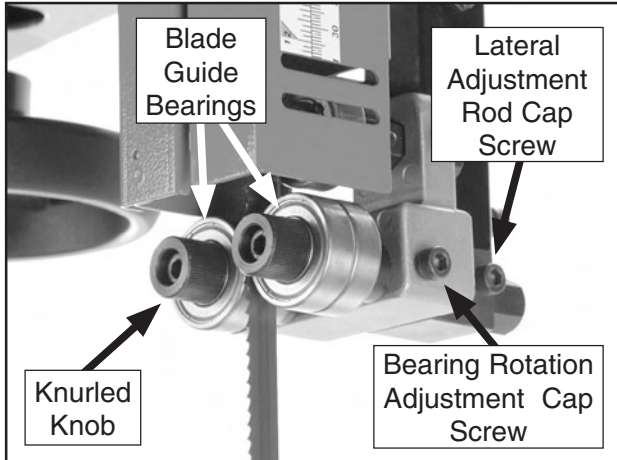

Figure 45. Blade guide controls.
3. Familiarize yourself with the blade guide controls shown in **Figure 45**.